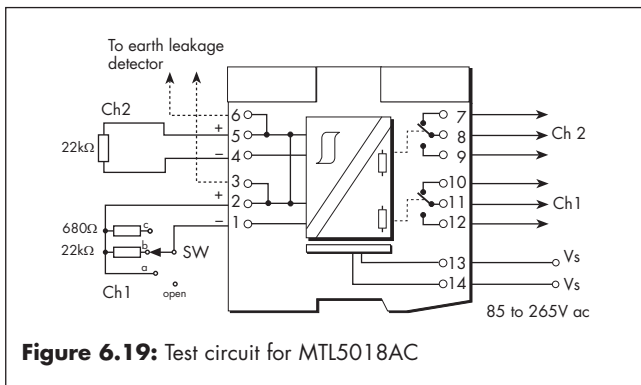

**Figure 6.18:** MTL5018AC wiring diagram and connections
See figure 6.18 for wiring connections.
**Note** that if the LFD facility is enabled for switch inputs, the resistors shown in figures 6.18 and 6.19 MUST be fitted.